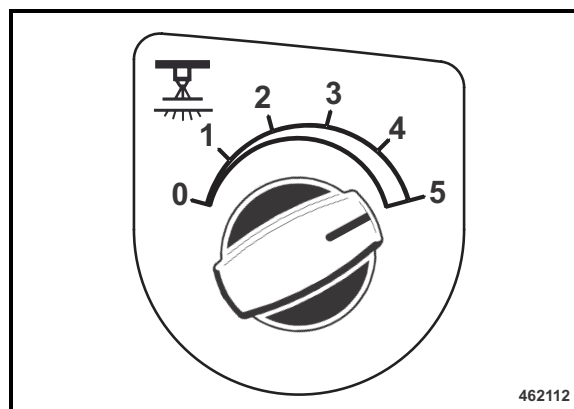

Fig. 84
- Set the interval switch for pressure sprinkling (Fig. 84) to position "5" (permanent sprinkling).